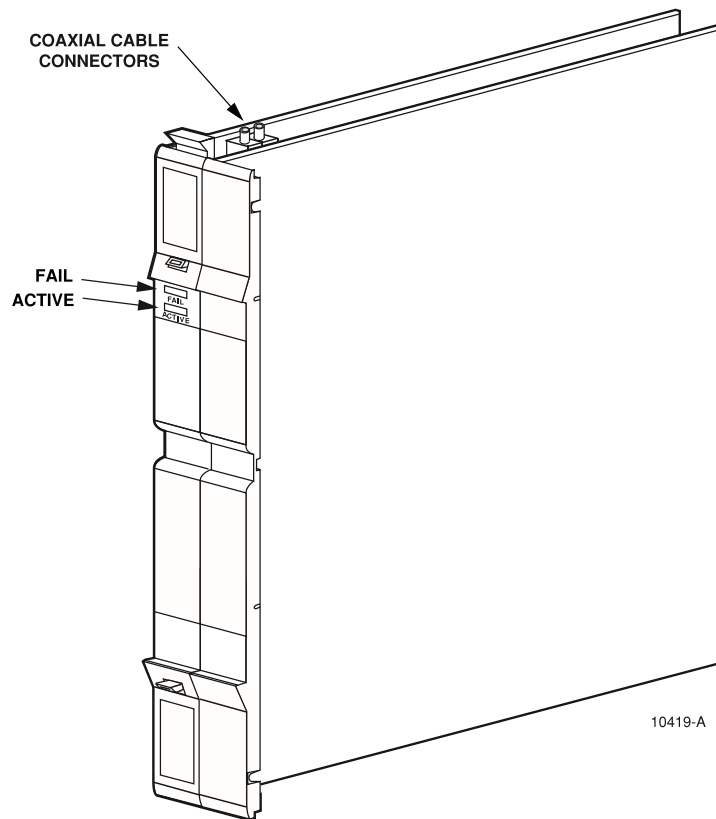

Figure 4-15. CXMU Coaxial Cable Connectors
4. Route the individual 735A feeder cables into the trough at the top of the HDT mounting shelf and then over the respective radius limiter. The end of the cable with the SMB connector connects to the TX or RX coaxial cable connector on the corresponding CXMU as shown in Figure 4-15.